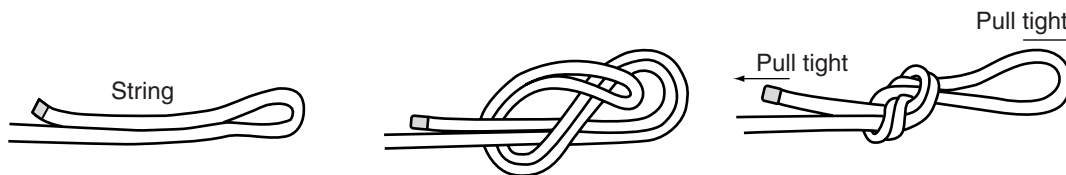

Figure 2.
5. Flip the paper over so the side with tape is facing the table. Pull each string in order to make them meet evenly in the center of the paper. Tie the strings together in a loop knot at the end (see Figure 2).